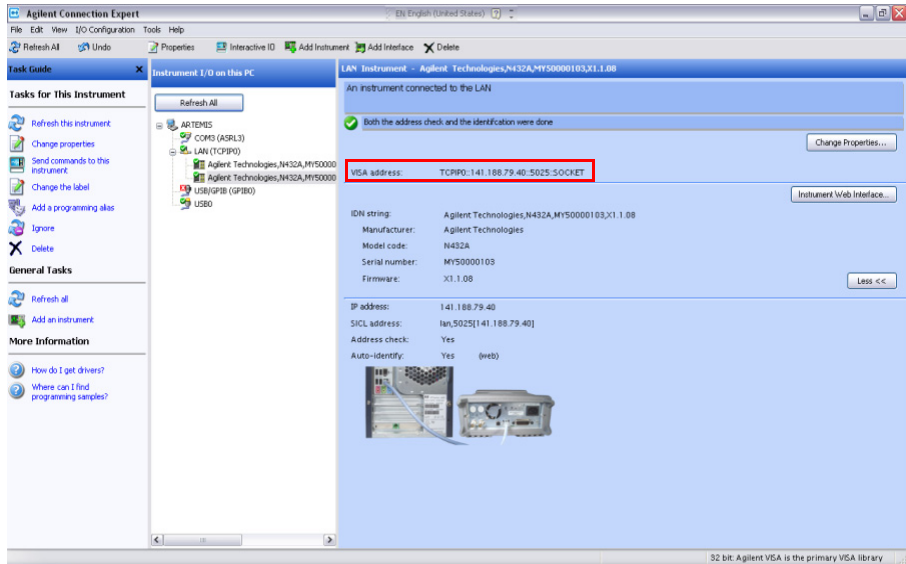

Figure 1-16 N432A connected via the socket connection
- 6 Click **OK**. You will then return to the Keysight Connection Expert window (**Figure 1-16**). Your N432A is now successfully connected via the socket connection.